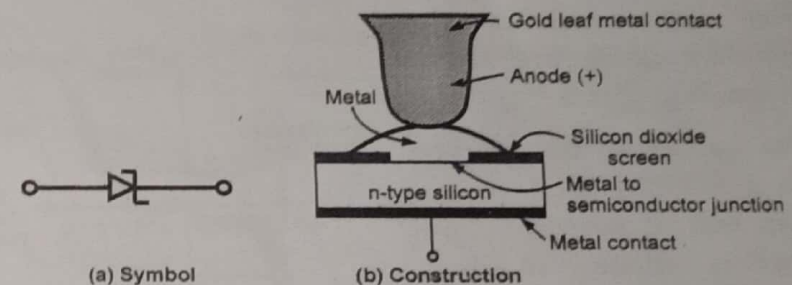

Fig. Q.16.1 Schottky diode
- It consists of a metal to semiconductor junction as shown in the Fig. Q.16.1(b). These diodes are also called Schottky barrier diodes, surface barrier diodes or hot carrier diodes. The symbol for the Schottky diode is shown in the Fig. Q.16.1 (a).